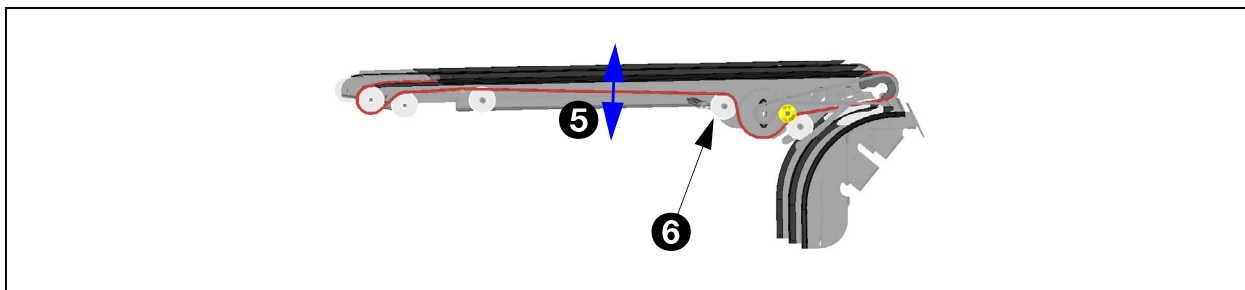

Fig. 45 - Chain tension of Spinner chain
1. The play (5) in the spinner chain can amount to a maximum of 15 mm. See fig. 45.
2. Adjust the play with the chain-tensioner (6).